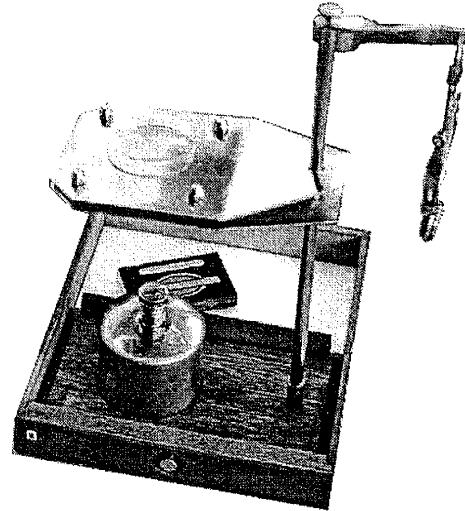

Fig. 6 Drying table and alcohol lamp
**THE WARMING PLATE STAND.** (Fig. 6) An adjustable low temperature heat source is needed for purposes such as drying slides and evaporating solutions. A drying table assembly and an accompanying brass alcohol lamp were designed and fabricated for such purposes. The drying table base is made of mahogany, 5.5" long x 3.0" w x 0.50" thick. The base top has a 2.0" dia x 0.25" deep cavity for retaining the alcohol lamp. At the top rear of the base is a #1/4-28 NF threaded stud to which a two part, 0.25" dia. nickel plated brass post is assembled. At the top of the post, which is 8.50" long after assembly, a #8-32 NF stud and a knurled nut retain a 2.50" long horizontal arm, notched at the unsupported end to hold a quadrant balance. See Fig. 6. The warming plate assembly is made of 0.050 thick sheet brass, 4.875" long x 3.0" w, having upper and lower sections separated by a 0.125" air gap. Matching holes are located at the rear of each plate. The double plate arrangement prevents heat from penetrating the metal platform too rapidly. The rear ends of the plates are bent slightly away from each other. The post passes through these holes and the plate assembly can be adjusted vertically by pressing the post ends of the plates toward each other, allowing them to move freely along the post. When the pressure is removed, the plates lock firmly against the post.
**THE ALCOHOL LAMP.** (Fig. 6) The 2.0" dia x 2.625" overall height alcohol lamp is made entirely of brass, topped with a screw-on cap to prevent the fuel from evaporating during storage. The exposed wick height is set with forceps.